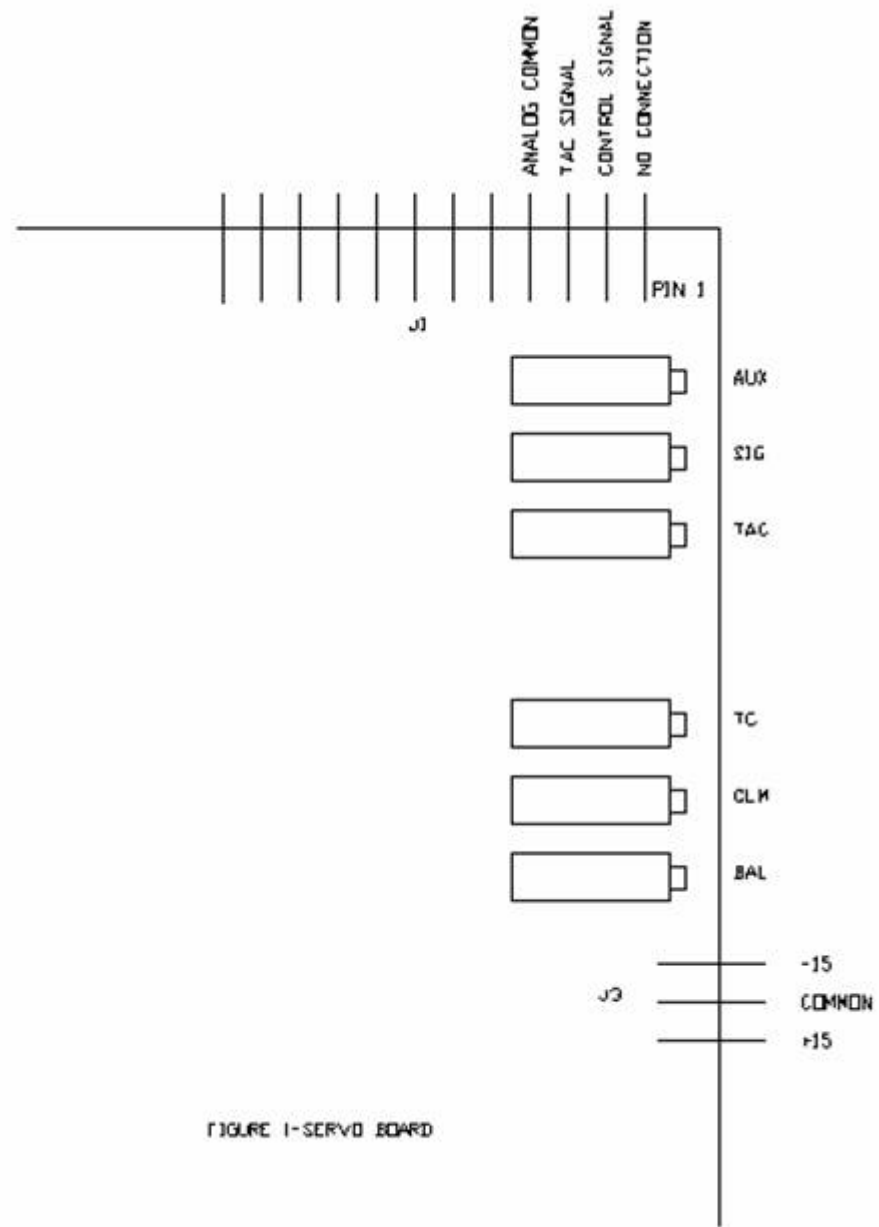

FIGURE 1-SERVO BOARD
Check across pins 1 and 2 of PC 803 P8 connector. You are looking for .8 volts D.C. If you don't have .8 volts D.C., adjust on the drive card the potentiometer labeled SIG until you achieve .8 volts D.C. See **figure 1** at the bottom of the page for potentiometer adjustments.
A. Hook up meter leads to 9 and 10 for the X axis adjustment and run the program from Step 5. You are looking for .8 volts D.C. If you don't have .8 volts D.C., adjust on the drive card the potentiometer labeled SIG until you achieve .8 volts D.C. See **figure 1** at the bottom of the page for potentiometer adjustments.